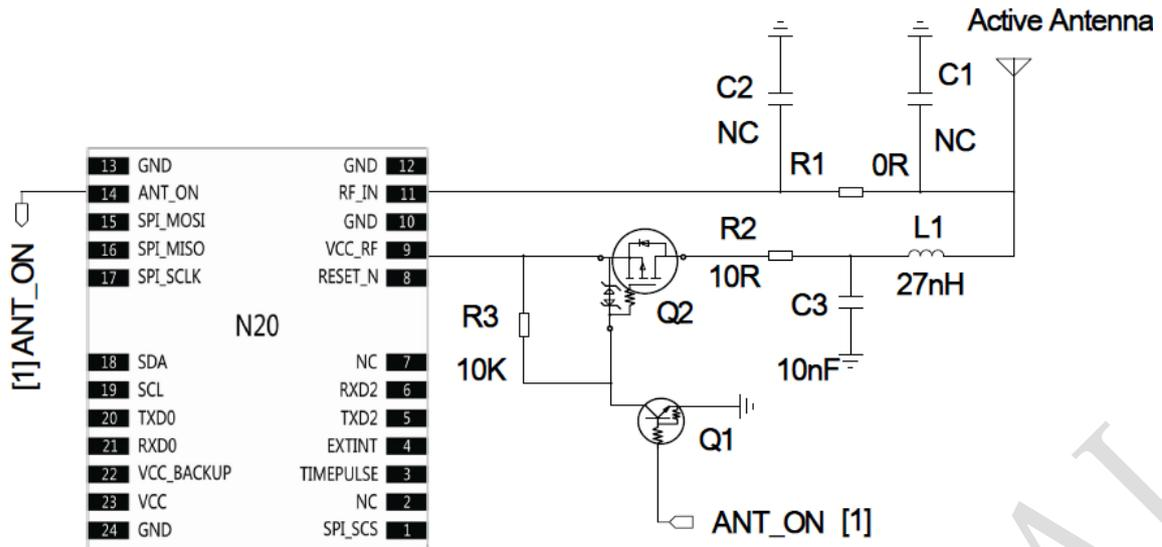

Figure 8 N20 Active antenna power consumption saving design
- N20 can also reduce power consumption by controlling the power supply of active antenna by pin 14 ANT_ON as shown in Figure 8. ANT_ON is an optional pin which can be used to control the power supply of the active antenna or the enable pin of an external LNA. When N20 module enters the standby mode, the ANT_ON pin will be pulled down, MOSFET Q1 and Q2 are in high impedance state and the power supply for antenna is cut off. In normal mode, the voltage value of ANT_ON is about 2.8V, it will make Q1 and Q2 in the on-state, VCC_RF will provide power supply for the active antenna. If not used, please keep ANT_ON pin open. For minimizing the current consumption, the value of resistor R2 should not be too small, and the recommended value is 10KR.